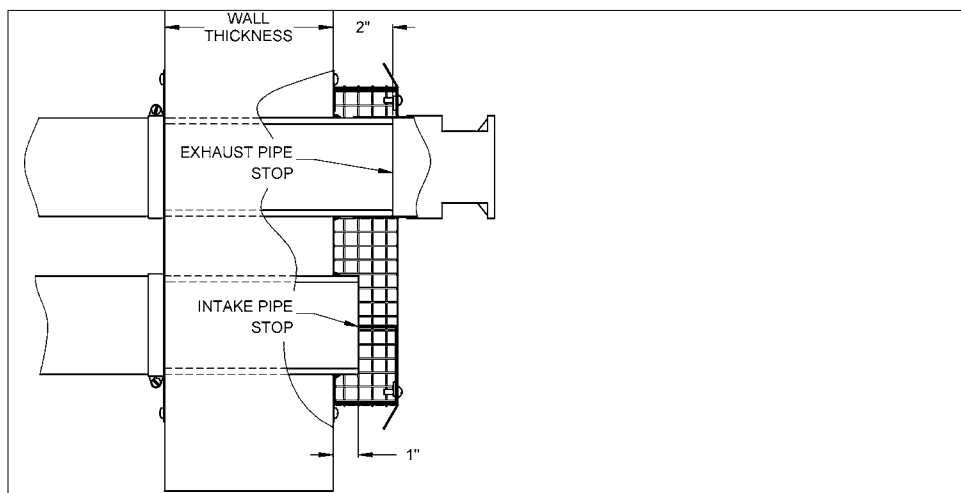

Figure 16: Pipes extend completely through the wall (Vertical orientation shown).
- The SST vent/air connections fit Sched. 40 two inch or three inch PVC/CPVC pipe. PP's pipe cannot be used with the SST. The pipes must extend completely through the wall as shown in Figure 16. The SST is an external fixture, and is not part of the sealed vent system that runs inside the building.